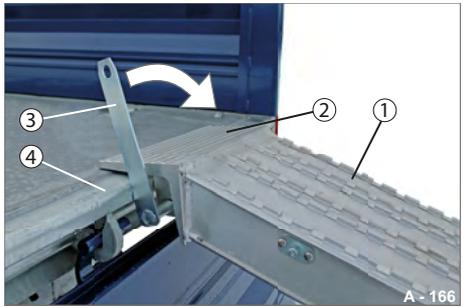

Fig. 177 Locking lever opened
► Lay the run-on plate (Fig. 177/2) on the loading platform edge (Fig. 177/4).
► Pull the locking lever (Fig. 177/3) down.